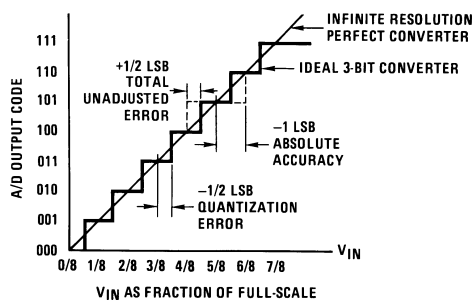
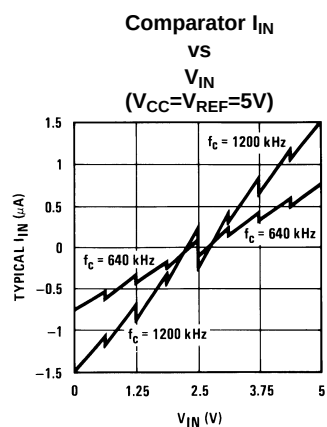

Figure 6. 3-Bit A/D Absolute Accuracy Curve
Figure 9.
- (1) Total unadjusted error includes offset, full-scale, linearity, and multiplexer errors. See Figure 6. None of these A/Ds requires a zero or full-scale adjust. However, if an all zero code is desired for an analog input other than 0.0V, or if a narrow full-scale span exists (for example: 0.5V to 4.5V full-scale) the reference voltages can be adjusted to achieve this. See Figure 16.
- (2) Two on-chip diodes are tied to each analog input which will forward conduct for analog input voltages one diode drop below ground or one diode drop greater than the V_{CCn} supply. The spec allows 100 mV forward bias of either diode. This means that as long as the analog V_{IN} does not exceed the supply voltage by more than 100 mV, the output code will be correct. To achieve an absolute 0V_{DC} to 5V_{DC} input voltage range will therefore require a minimum supply voltage of 4.900 V_{DC} over temperature variations, initial tolerance and loading.
- (3) Comparator input current is a bias current into or out of the chopper stabilized comparator. The bias current varies directly with clock frequency and has little temperature dependence (Figure 9). See paragraph 4.0.
The average value of the comparator input current varies directly with clock frequency and with V_{IN} as shown in Figure 9.